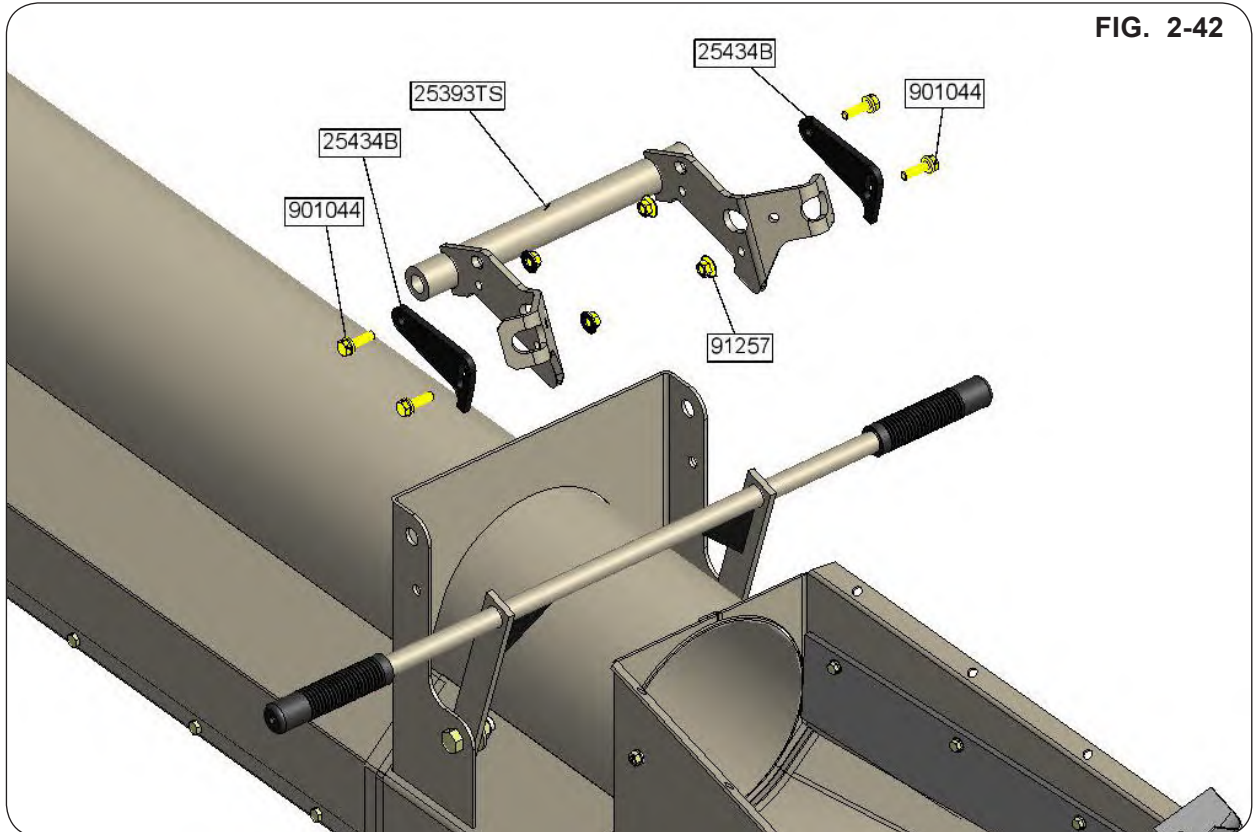

FIG. 2-42
2. Secure the pivot weldment (25393TS) as shown in Fig. 2-42 with two shim plates (25434B), four 5/16"-18UNC x 1" serrated flange bolts (901044) and four 5/16"-18UNC large flange hex nuts (91257).